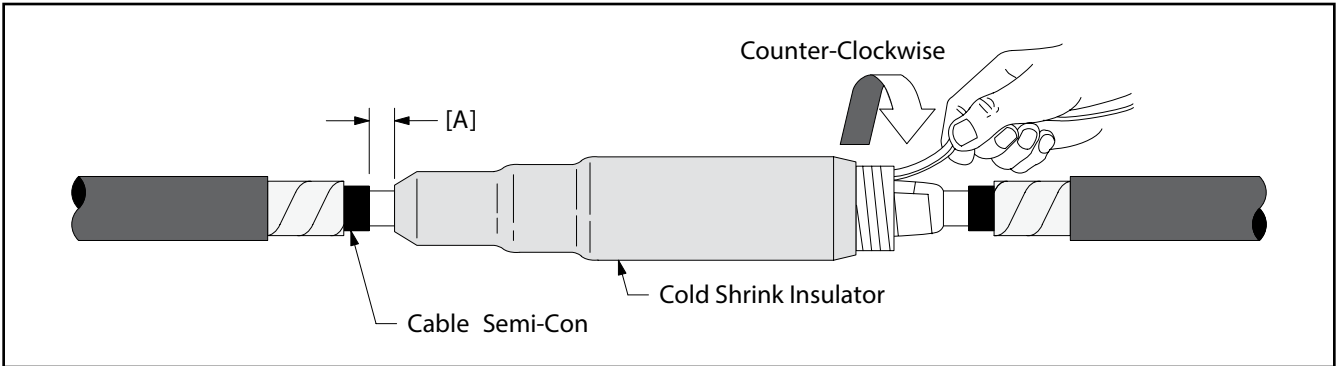

Figure 11
7.1 Slide cold shrink insulator short tube with (tapered ends) over connector area. Align end of insulator (not core) at Dimension A, Table 3 and (Figure 11).
7.2 Remove core UNWINDING, COUNTER-CLOCKWISE (Figure 11).